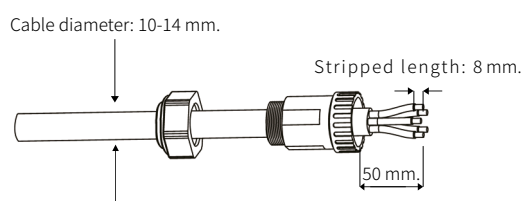

Fig. 34. Cable stripping.
- c. According to the above table, select a suitable cable, remove the insulation sleeve from the AC cable about 50 mm, and remove the insulation from the end of the L/PE/N cables about 8 mm, as shown in Fig. 34: